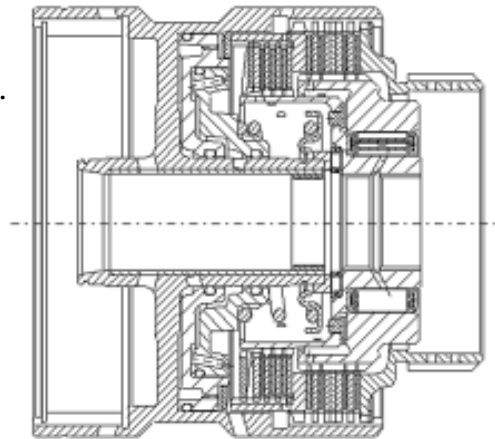

Figure 8.24 Typical C2/C4clutch assembly
- w. Connect the C2 /clutch C4 wheel axle assembly in clutch C4 disc, install the clutch C2 disc. Install the C3 wheel axle and reinforce it by ring spring; ensure the ring spring is installed in the groove fixedly. Please refer to Figure 8.24.